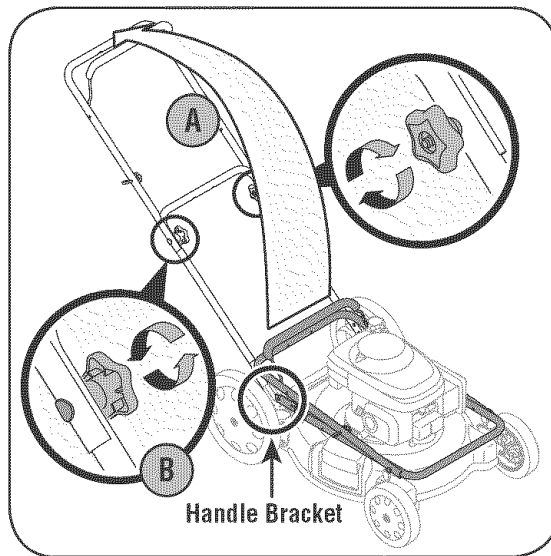

Figure 3-1: Unfold handle and tighten hardware.
- a. Pull up and back on upper handle as shown in Figure 3-1. Make certain the lower handle is seated securely into the handle mounting brackets. Do not crimp cable while lifting the handle up.